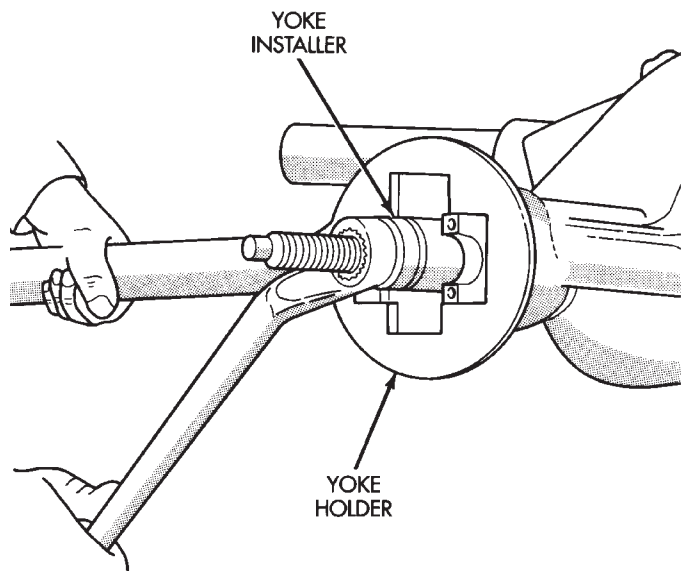

Fig. 7 Yoke Installation
- (6) Position the pinion yoke on the end of the shaft with the reference marks aligned.
- (7) Seat yoke on pinion shaft with Installer D-191 and Wrench 6719 (Fig. 7).
- (8) Remove the tools and install the pinion yoke washer and nut.